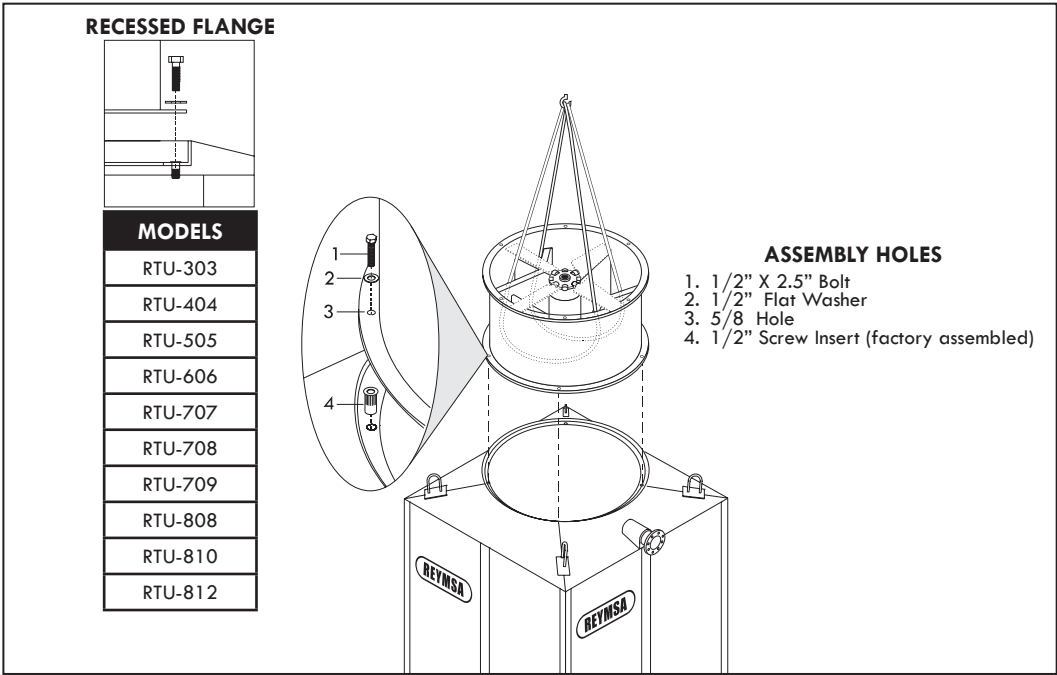

Figure A-36: Fan Duct assembly for a Single Fan Tower
- I. Then cradle/straddle the fan support with the straps (as shown in figure A-36) so you can lift the fan duct with a crane and assemble it.
- J. Now place the fan duct on the receiving flange of the upper section; make sure the bolt holes and the marks inside the fan duct and the distribution manifold (located inside of body section) are aligned (see Figure A-36 and A-37). Secure it with the stainless steel nut and bolt sets supplied by REYMSA.